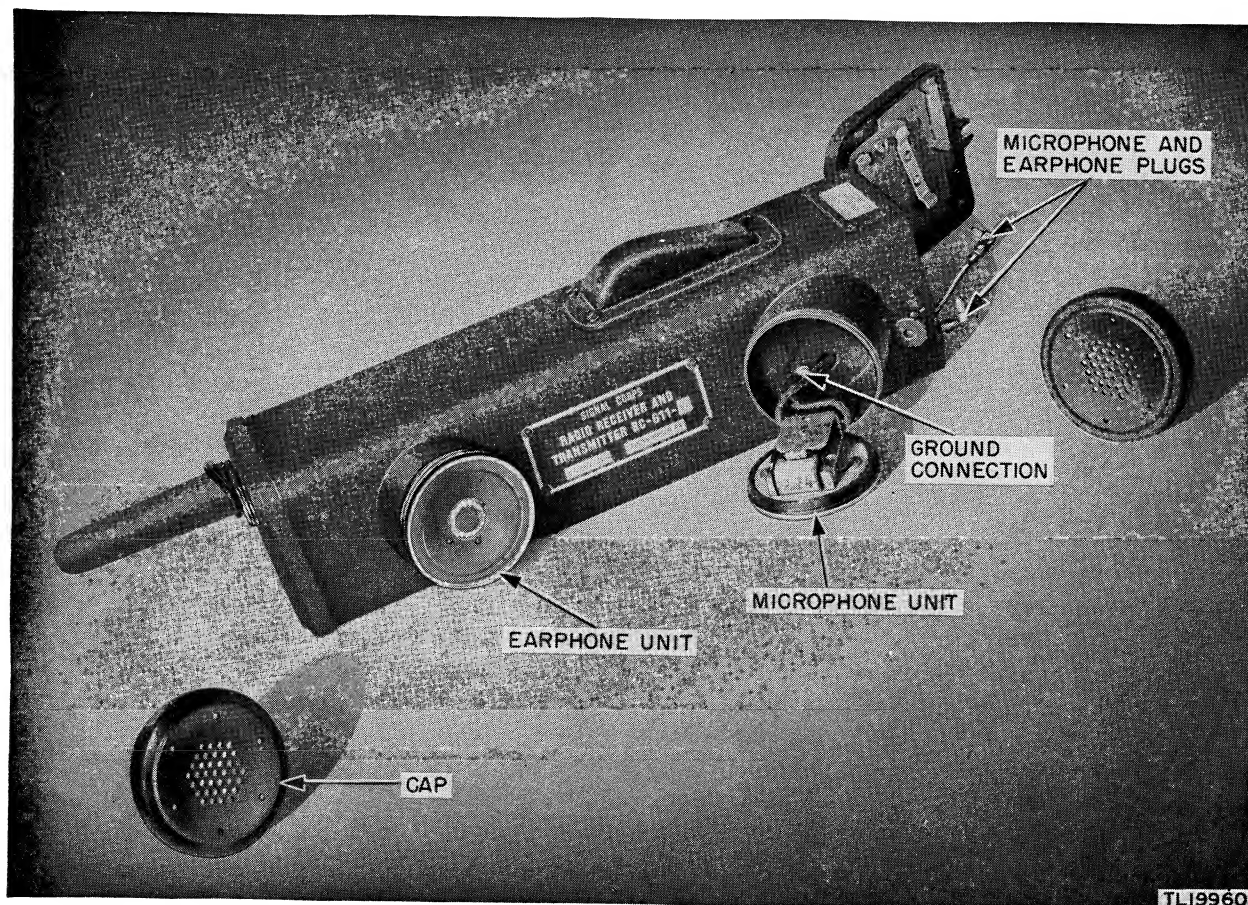

Figure 23. Radio Set SCR-536-(*), microphone and earphone caps removed.
a. INSPECT. (1) Check the case for dirt, scratches, dents, or other damage.
(2) Look for breaks or weaknesses in the flexible cover over the press-to-talk switch, and damage to the microphone and earphone caps. Remove microphone and earphone caps to permit closer inspection of the units. (See fig. 23.) See that the thin cones under the microphone and earphone caps are free from dust and undamaged.
(3) Check the press-to-talk switch for signs of looseness.